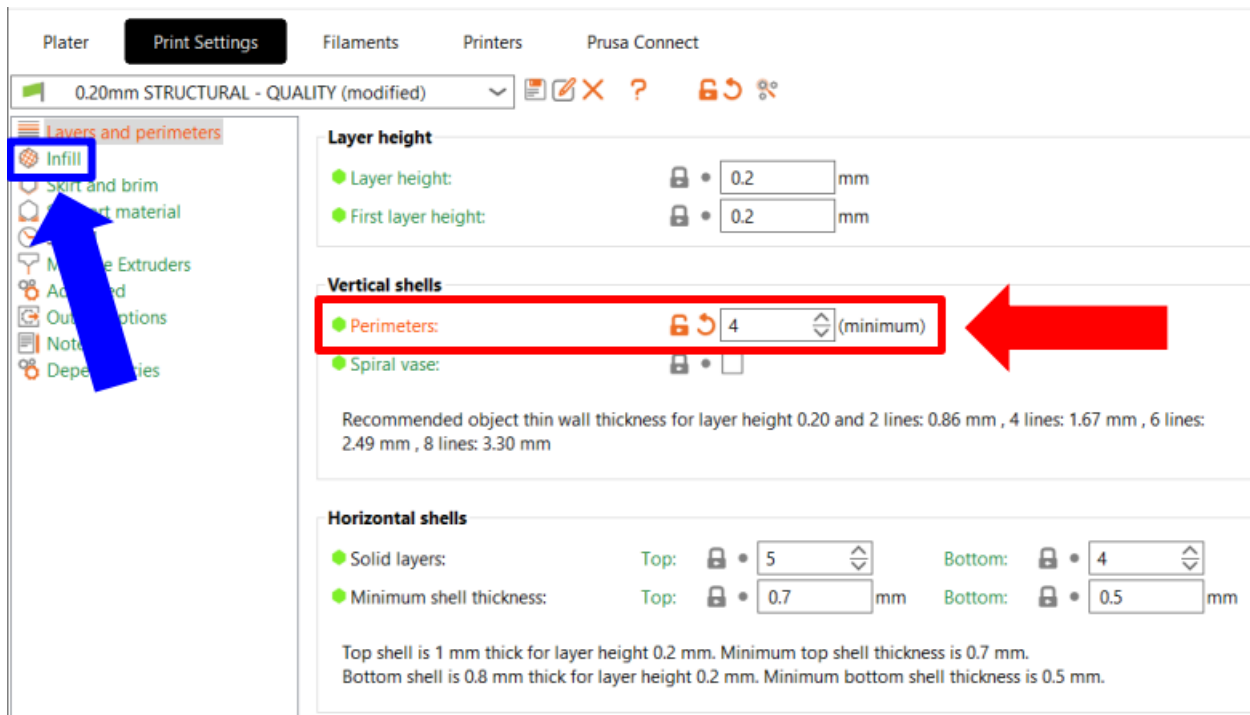

Figure 2
3. Go to the “Print Settings” tab in the top left corner of PrusaSlicer and change the number of perimeters to 4 (see red arrow in Figure 2). Then double-click on the “Infill” subtab (see blue arrow in Figure 2).